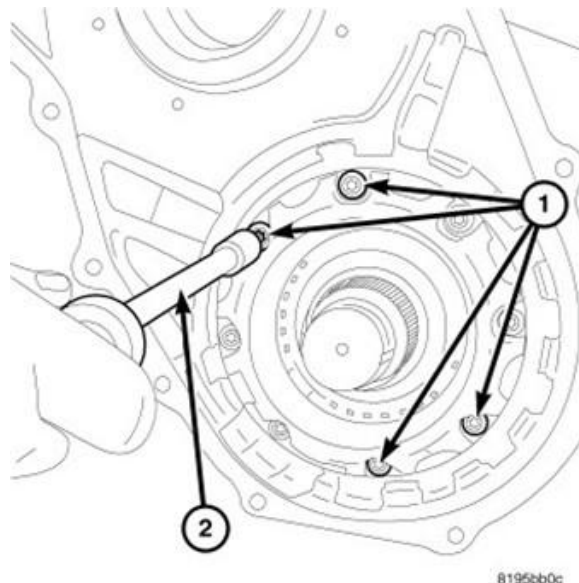

Figure 26 – Bearing Retainer Bolts
38. Remove 4 bolts (1) from compounder bearing retainer to allow attachment of Puller Adapter 9908 (Figure 26).
**NOTE:** The compounder bearing retainer bolts may be very tight so it is important to have a good fitting new driver tool (2) for removal of these bolts (1) or the bolts heads may become damaged during removal (Figure 26).
72. Install all the remaining bolts (1) to the compounder bearing retainer then tighten all the bolts in a criss-cross pattern to 12 N·m (105 in. lbs.) (Figure 26).